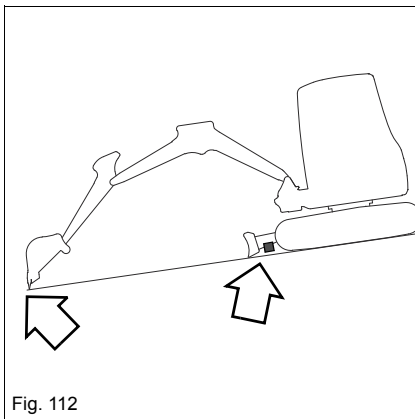

Fig. 112
- Secure the machine with wheel chocks (see *Fig. 112*).